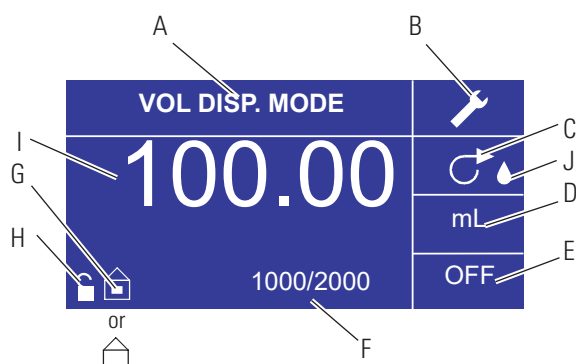

Figure 3-10. Volume Dispense Mode Screen
6. Setting Pump OFF Time: Use the directional pad and ENTER key to select OFF on the display (see position E, Figure 3-10) to enter the OFF TIME. Use the directional pad and ENTER key to set the pump rest time. The timer in the center of the screen will be highlighted, and using the UP/DOWN arrows will increase/decrease the farthest right digit of the time interval. If ENTER is pressed a second time while the timer is highlighted, the digits can be navigated individually using the UP/DOWN arrows; switch between digits using the LEFT/RIGHT arrows. After selecting an optimal OFF time, press ENTER again to validate. The drive will now rest for the time appearing in the center of the screen. **NOTE:**If the OFF Time is set to 00:00:00, the drive requires a START/STOP **input** from the keypad or the remote I/O Connector to start the next dispense.
7. **Setting Batch Size:** Use the directional pad and ENTER key to select the Batch Count icon from the operation screen (see position F, Figure 3-10). From Batch Count screen use the UP/DOWN arrows to select batch size. Press ENTER to validate batch size. When set to zero (0) the drive will run for an infinite number of cycles and the ∞ symbol is displayed. Select EXIT to return to drive operation screen.
9. **Reset Batch Count:** Use the directional pad and the ENTER key to select the BATCH COUNT icon (see position F, Figure 3-10). In the BATCH COUNT screen, select RESET and press the ENTER key to reset the batch count. Select EXIT to return to the COPY MODE OPERATION screen.